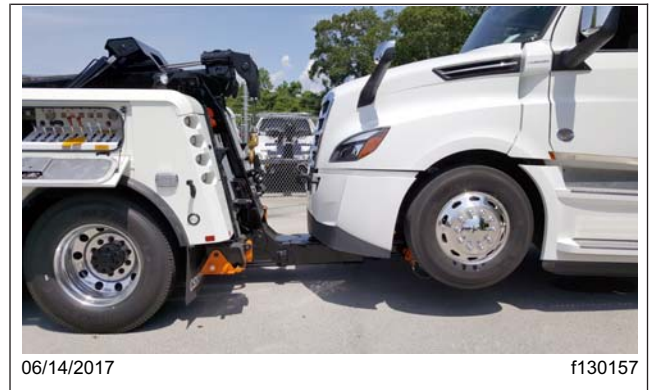

Fig. 24.17, Final Towing Position
16. Use the stinger to pull the vehicle close to the back of the tow truck for final towing position. See Fig. 24.17.